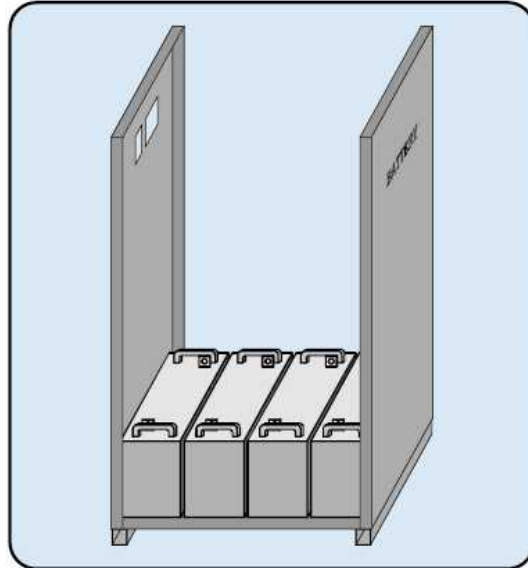

Figure 3
2. According to the accompanying wiring diagram and list, laying the batteries on the base of the battery cabinet, connecting the wires, locking the wires on **battery poles**. Shown as Figure3.